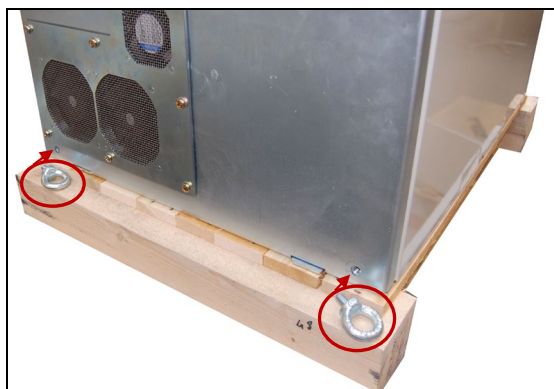

Figure 6: Fix the eyebolts before lifting the PQFS
- Fix the two eyebolts provided with the filter (see Figure 6).